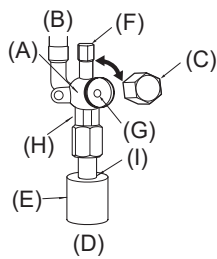

Fig. 4-5
4.5. Stop valve opening method (Fig. 4-5)